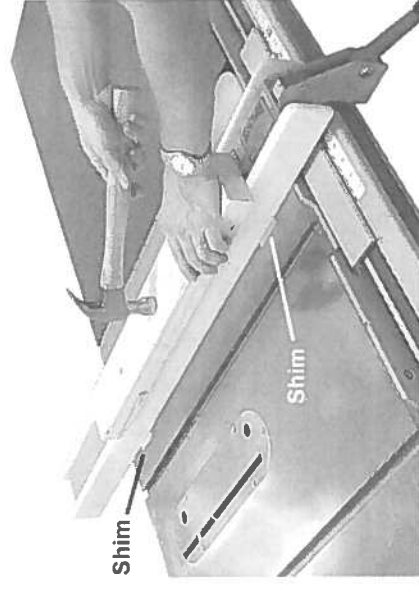

Figure 17
3. Reposition the Accu-Fence on the table and place the plastic shims (included with the shipping contents) beneath the side plates. With the hammer and wood block, tap the sides down until they contact the shims as shown in Figure 17.